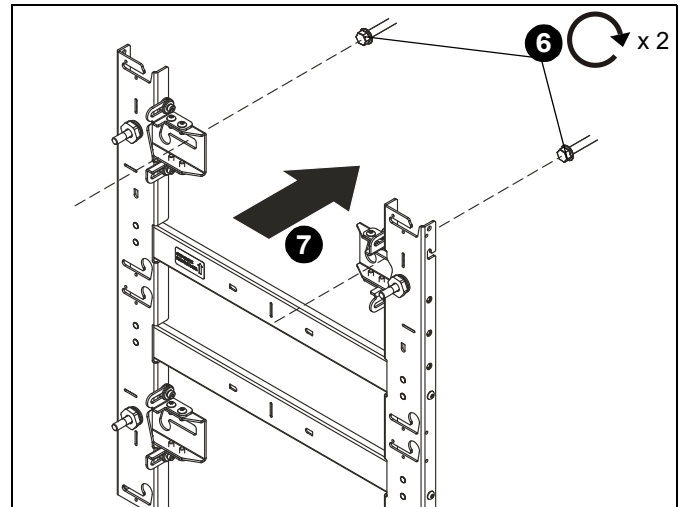

Figure 7
7. Hang wall mount, aligning upper mounting slots over fasteners, and adjust side-to-side for proper location, but do NOT completely tighten to wall. (See Figure 7)